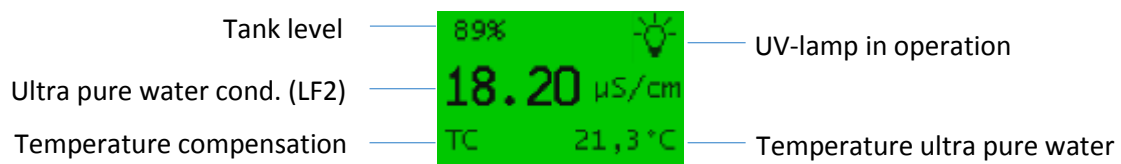

Figure 13: Main display
The main display (refer to Figure 13: Main display) is automatically shown when the system is switched on. It provides information on the actual system condition and shows you the measured value of the conductivity at the withdrawal point (LF2) in the unit that has been set ($\mu\text{S}/\text{cm}$ or $\text{M}\Omega\text{cm}$), as well as the temperature of the ultra pure water and the actual tank level. Further to this, it shows if the conductivity measurement is made with temperature compensation (TC) or without it (NTC). If your version is an OmniaTap UV or UV/UF, the lamp symbol provides information on the operating condition of the UV-lamp when it is switched on.